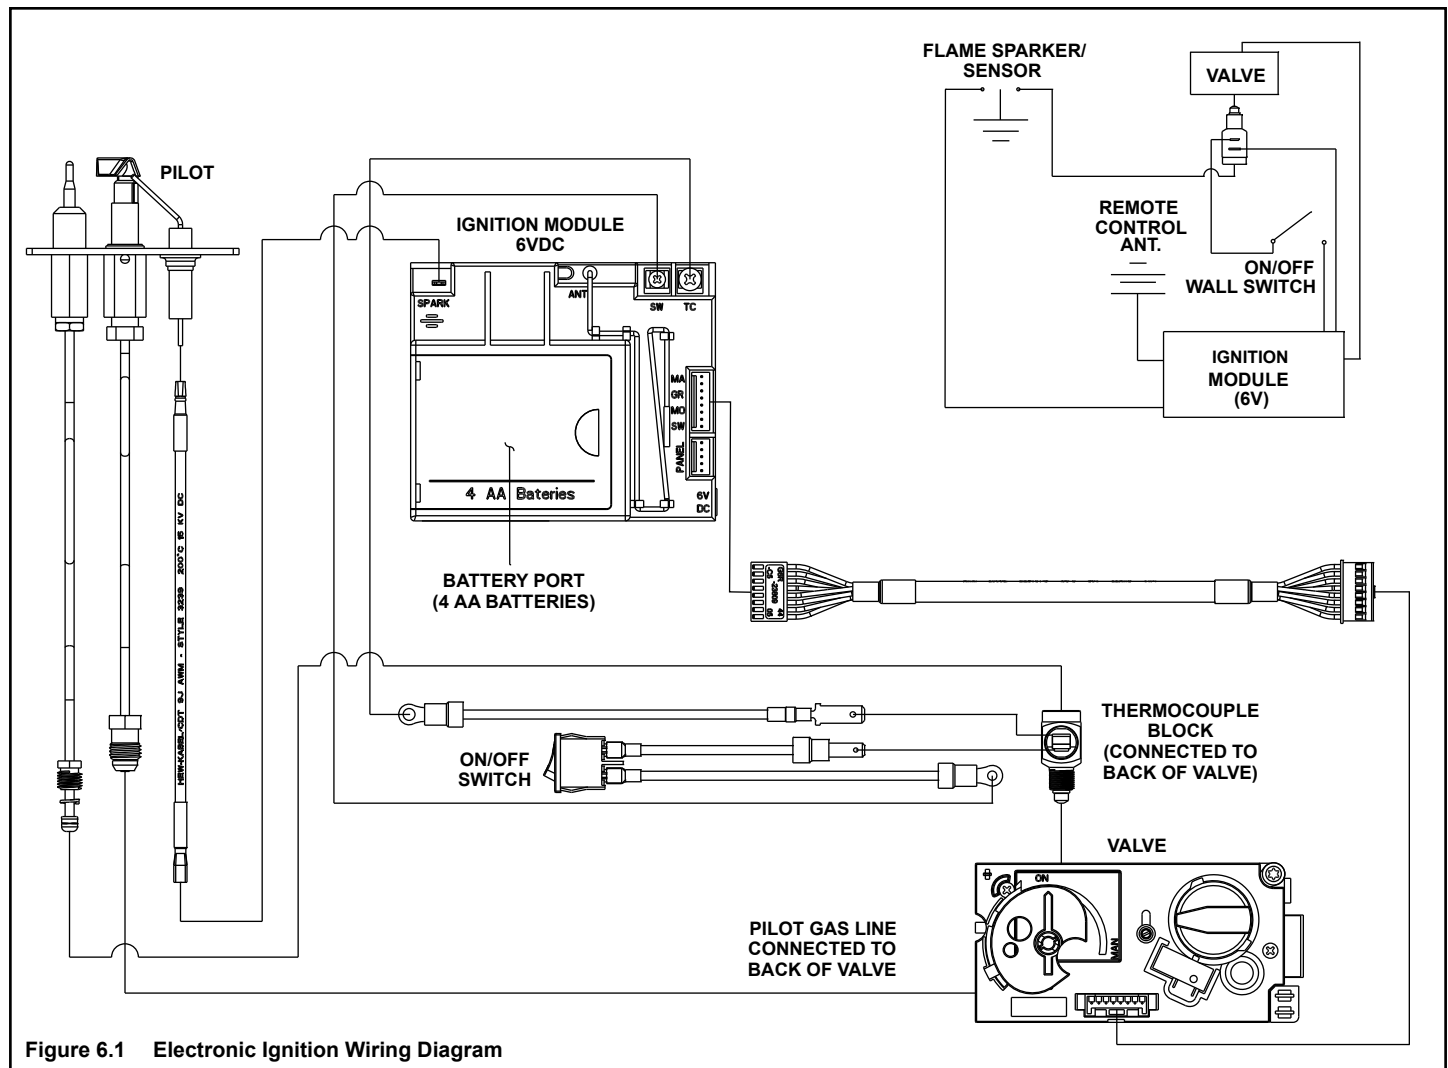

Figure 6.1 Electronic Ignition Wiring Diagram
- The batteries are located within the ignition module which is located within the external control box. A wiring diagram is shown in Figure 6.1.